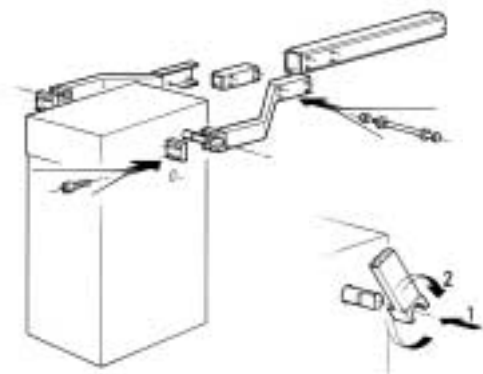

Fig.5
- 2- Assemble the two halves of the rod using the supplied nuts and bolts and a N° 8 setscrew wrench (Fig. 5).